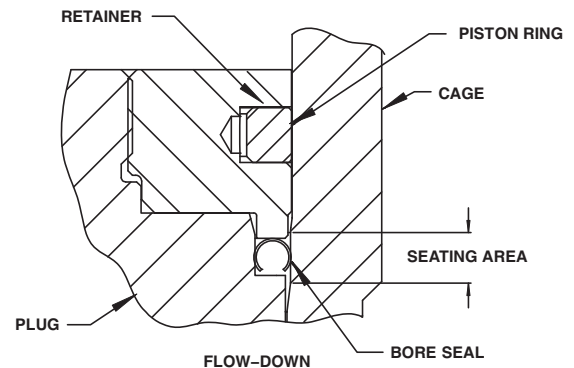

Figure 2. Flow-Down Fisher Bore Seal Construction
- The open interior of the Bore Seal must face down in a valve with flow-down construction (figure 2).